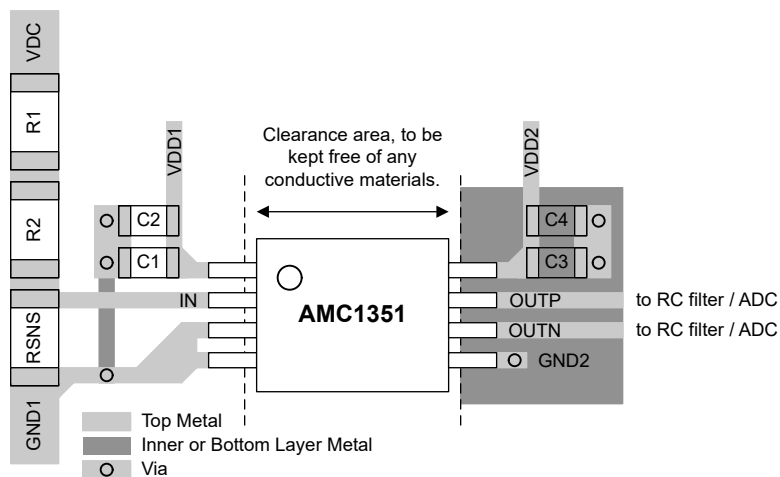

Figure 10-1. Recommended Layout of the AMC1351
Figure 10-1 shows a layout recommendation with the critical placement of the decoupling capacitors (as close as possible to the AMC1351 supply pins) and placement of the other components required by the device. For best performance, place the sense resistor close to the device input pin (IN).